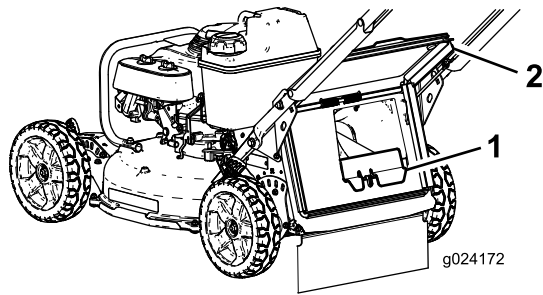

Figure 21
the rear-discharge chute until the latch locks into place (Figure 21).
1. Rear door 3. Notch (2)
2. Bag-rod end (2)
3. Remove the rear-discharge plug by pushing in the latch with your thumb and pulling the plug out from the machine (Figure 21).